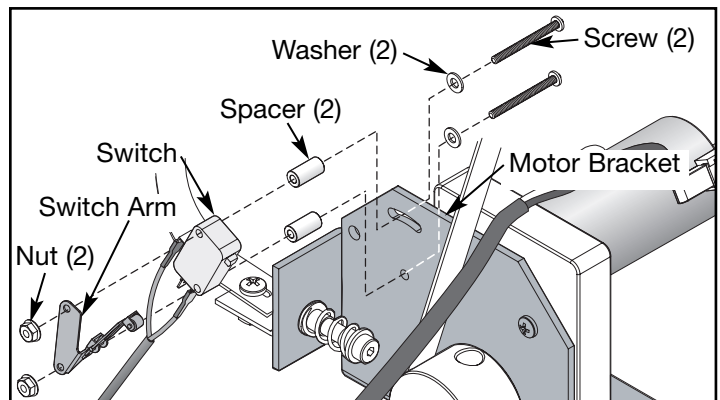

Figure 3
- A. Using a 1/4" nutdriver and a small flathead screwdriver, remove the two screws, two washers, two spacers and two nuts that hold the switch in place. See Figure 3. **NOTE:** Keep the switch arm, washers, screws, spacers and nuts.